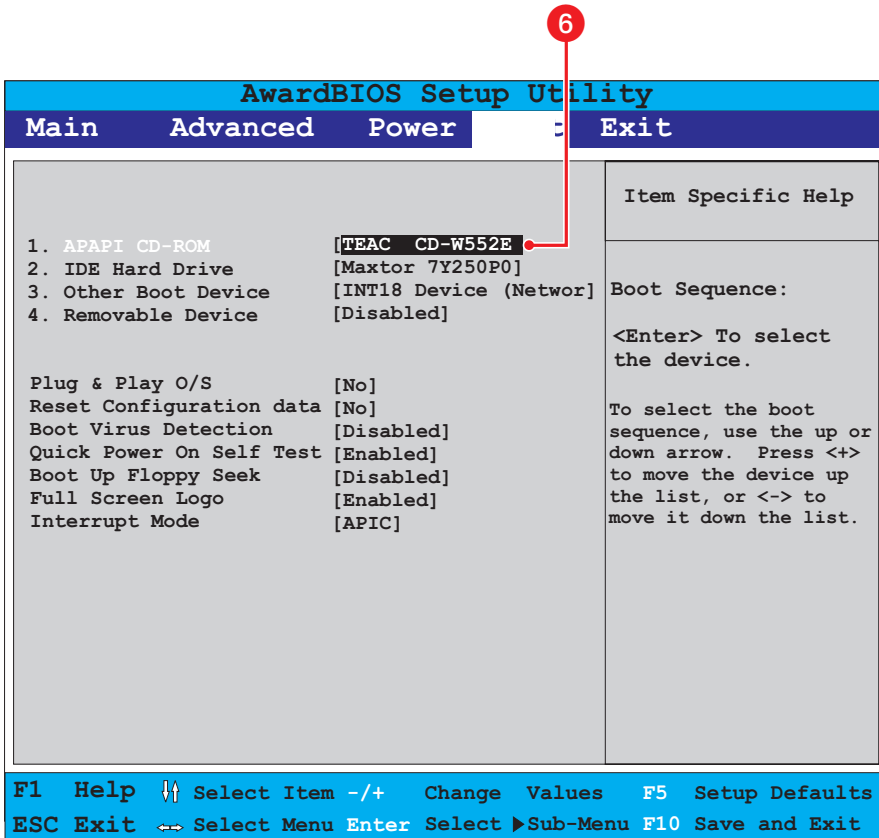

Figure 29. BIOS Boot Screen with CD/DVD Drive at Top
6. Press the minus (-) key on your keyboard to change the boot sequence from the hard disk to the CD or DVD drive installed on your system. The screen should look something like the example in Figure 29.